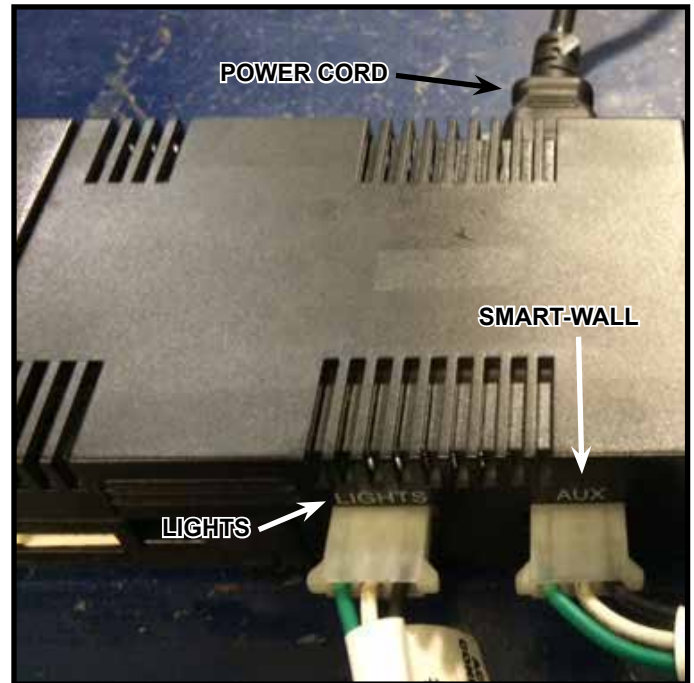

Figure 9. Fan, Lights and Smart-Wall Connection
- To connect a light kit to the IFT-ACM, remove protective rubber cap labeled 'LIGHTS' and connect to the female cord that was supplied in your lights kit into the three male pins on the IFT-ACM. See Figure 9.
- To connect a Smart-Wall kit to the IFT-ACM, remove protective rubber cap labeled 'AUX' and connect the female end connector of the Smart-Wall control module leads to the three male pins on the IFT-ACM. See Figure 9.